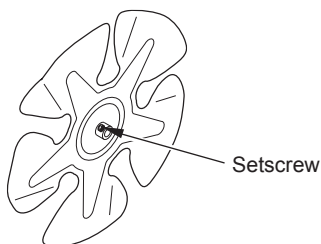

Figure 7 - Setscrew Location
3. Use hex wrench to loosen set screw which holds fan to motor shaft (see Figure 7). Remove fan. Be careful not to damage the fan blade pitch.
3. Use hex wrench to loosen set screw that holds fan to motor shaft (see Figure 7, page 7).